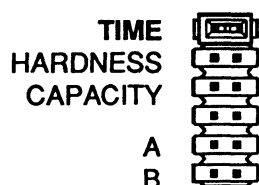

Figure 9
3. With the "jumper" on the set of pins next to the word **TIME** (Figure 9), set the time of day to the closest hour by depressing the black TIME SET BUTTON. PM hours are indicated by a light next to the letters PM on the display window.